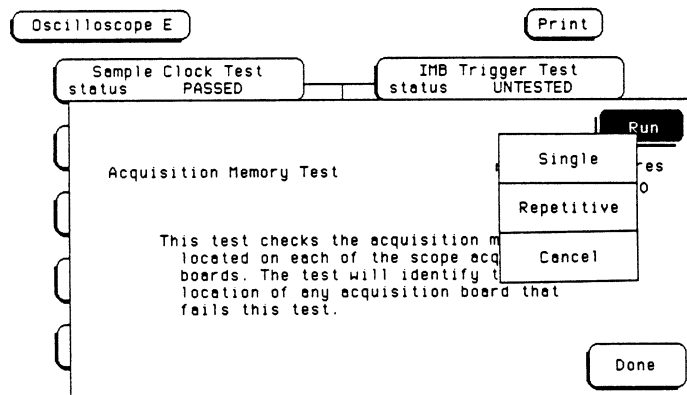

Figure 6-8. Acquisition Mem Test Run Screen
- g. The individual test run screens, see figure 6-8, give the test name, a brief description of the test, number of test runs, and the number of test failures.